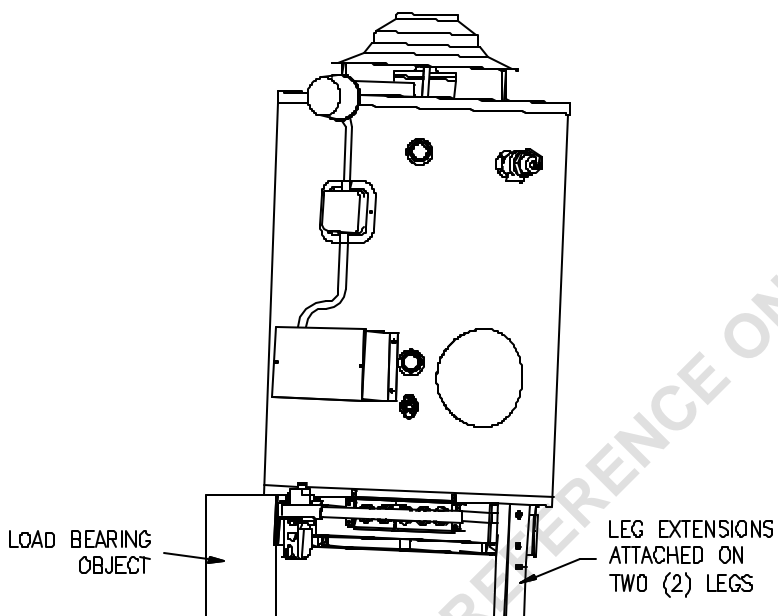

Figure 3
6. Repeat steps 1 through 5 for the remaining leg(s). Use two (2) or three (3) 12" high load-bearing objects for supporting the water heater when assembling the remaining leg extensions (**see Figure 3**).